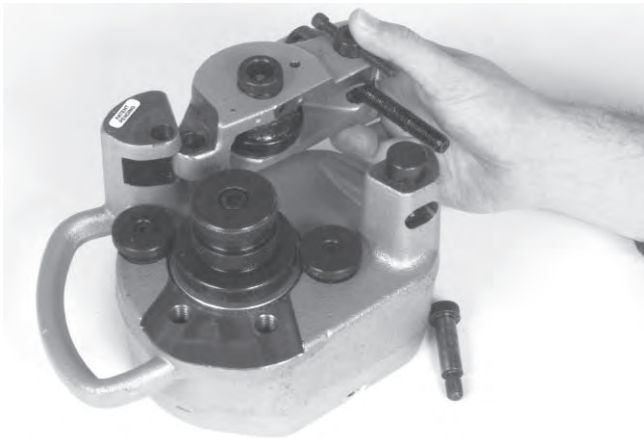

Figure 15 – Removing Feedscrew
3. Rotate feedscrew counter clockwise until free from pivot nut and remove reaction arm (*Figure 15*).